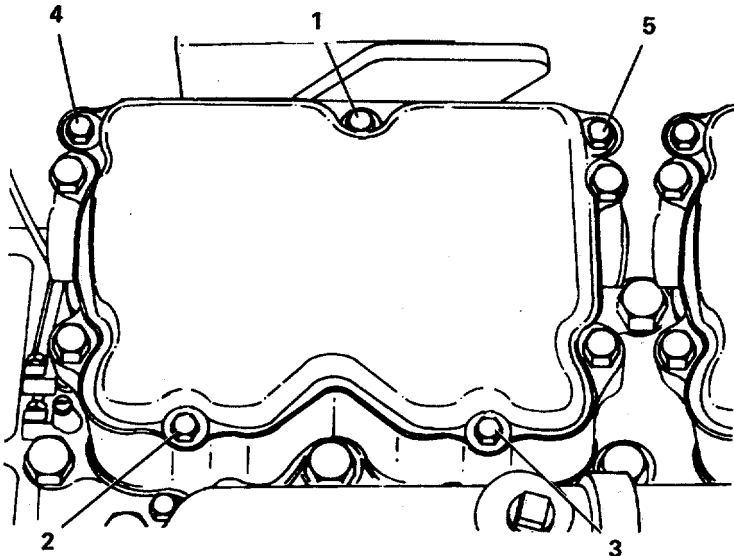

FIGURE 2-46. Engine Poppet Cover Torque Sequence.
- (l) Install gaskets (6) and covers (5) on rocker lever housings (7).
- (m) Install assembled washer screws (4) in each cover (5).
- (n) Tighten each assembled washer screws (4) in the sequence shown (FIGURE 2-46) to 15 ft-lb torque.
- (o) Install engine lifting brackets (8) and four hexhead capscrews (9). Torque cap screws to 60 ft-lb (80 N•m).
- (p) Install nonmetallic hose (1) on breather (3) with hose clamp (2).